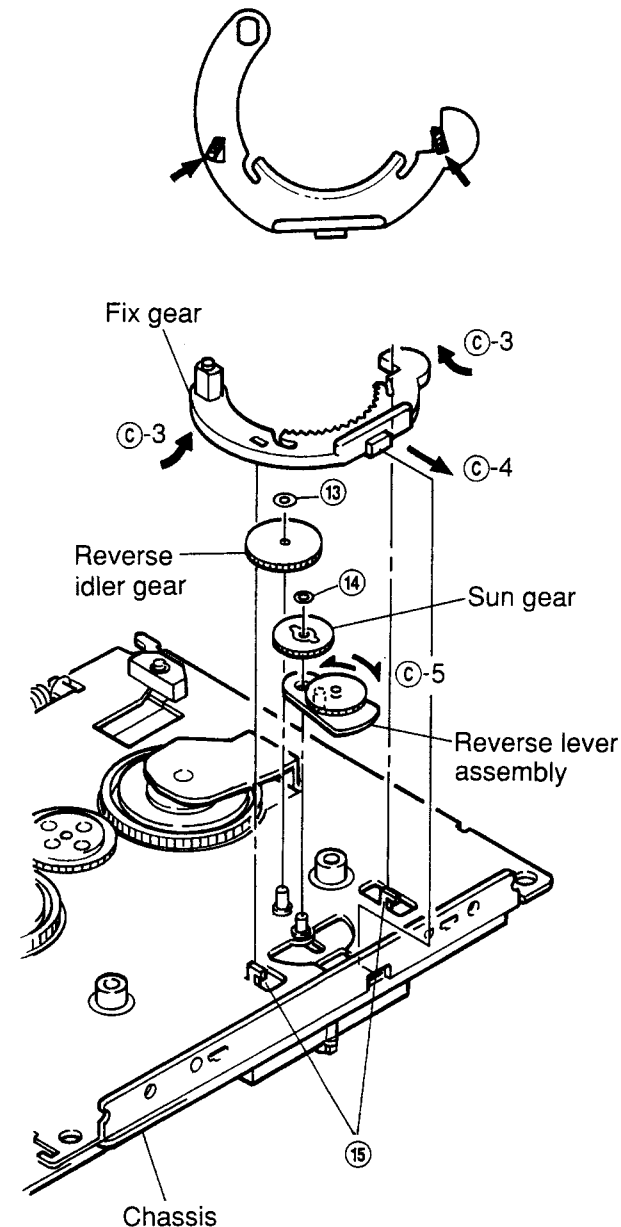

Figure 13
- (1) Remove M1.2 lock washer ⑬, pull it up from the stud of the chassis and remove the gear as shown in Figure 13.
- (2) Remount following the removal steps in the reverse order.
- (1) Remove M1.2 lock washer ⑭, pull it up from the stud of the chassis and remove the gear as shown in Figure 13.
- (2) Mount it, following the removal steps in the reverse order.
- (1) Adjust the two mounting claws for the fix gear on the chassis ⑮ and remove the section ③ of the gear by pulling it up in the direction of the arrow shown in Figure 13.
- (2) Insert the section ④ of the new gear into the chassis, and mount it following the removal steps in the reverse order as shown in Figure 13.
- (1) Remove both the fixing gear and the sun gear and remove the reverse lever assembly as shown in Figure 13.